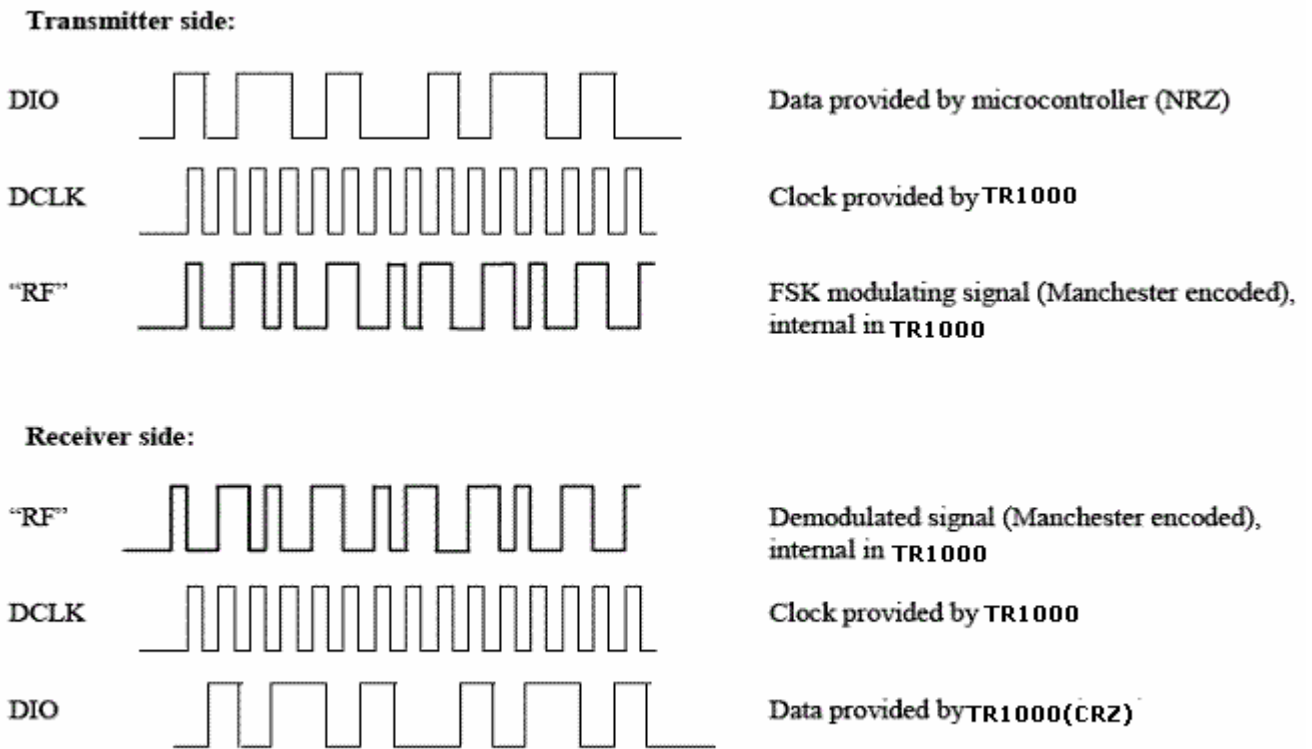

Figure 8. Synchronous Manchester encoded mode
**TR1000** does the decoding and NRZ data is presented at DIO. The data should be clocked into the interfacing circuit at the rising edge of DCLK. See Figure 8.